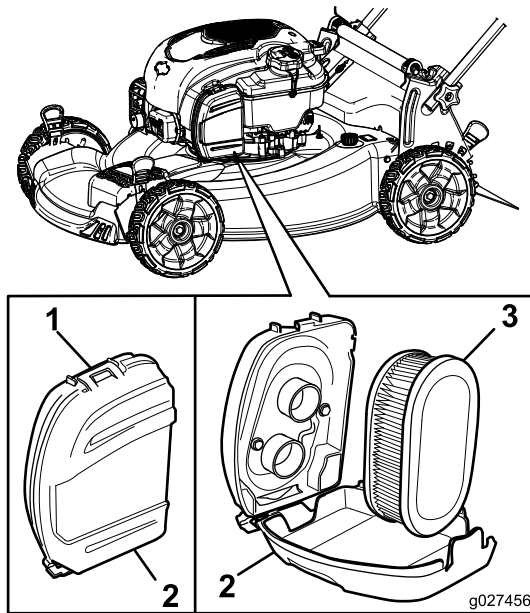

Figure 22
1. Upclip the top of the air-filter cover (Figure 22).